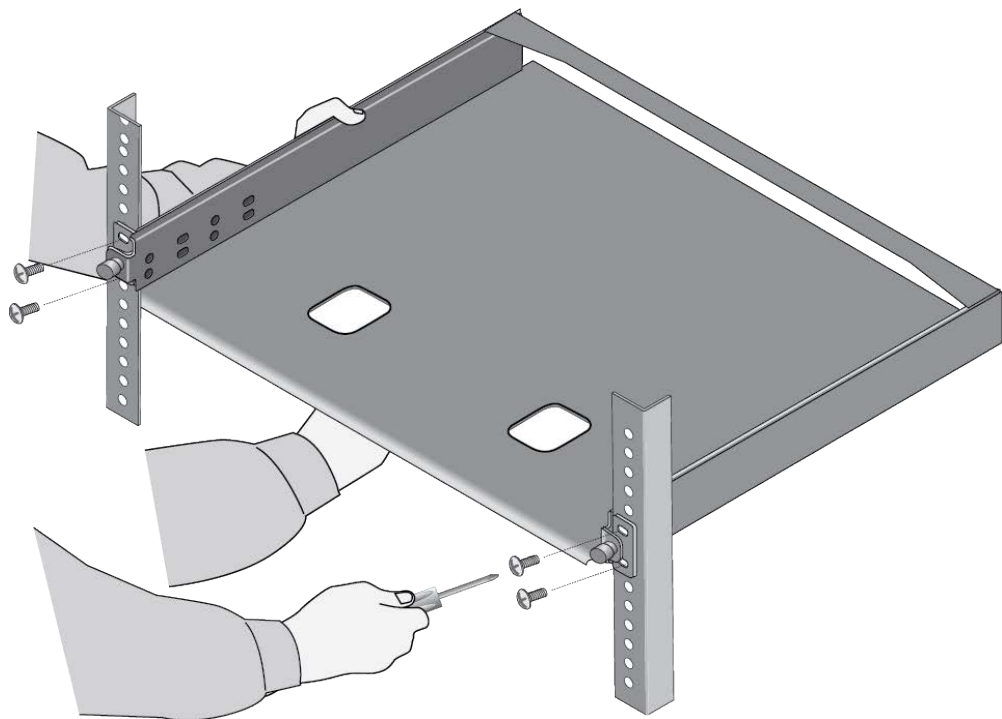

Figure 43. Installing the AT-RKMT-J15 Bracket in the Equipment Rack
1. Have another person hold the AT-RKMT-J15 Bracket at the desired location in the equipment rack while you secure it using four standard equipment rack screws (not provided). Refer to Figure 43.